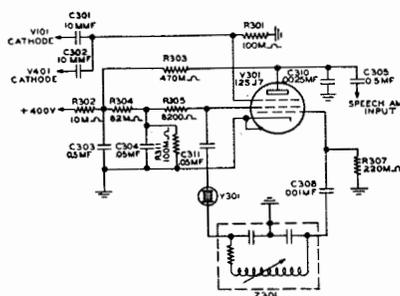

Fig. 20 CFI Oscillator Circuit
2.8.1. The calibration oscillator, Figure 20, employs a Type 12SJ7 tube V301, and is located in the same unit as the MCW tone oscillator. A 200 kc quartz crystal unit is mounted in a sealed holder and plugs into an eight terminal socket on top of the chassis. The grid tank circuit, Z301, is built into a shield can with the inductor tuning screw protruding through the side of the can. The output frequency of this oscillator may be varied slightly by adjusting the tuning screw. Screen and plate voltages are applied to the tube when the power level switch S106 is operated to the CALIBRATE position. Operating S106 to either the TUNE or OPERATE position removes high voltage from V301 thus disabling the oscillator circuit. A portion of the output of the h-f oscillator V101 is coupled to the suppressor grid of V301 by the capacitor, C301. A portion of the output of the l-f oscillator V401 is coupled to the suppressor by capacitor C302. The screen and plate voltages for V301 are ob-